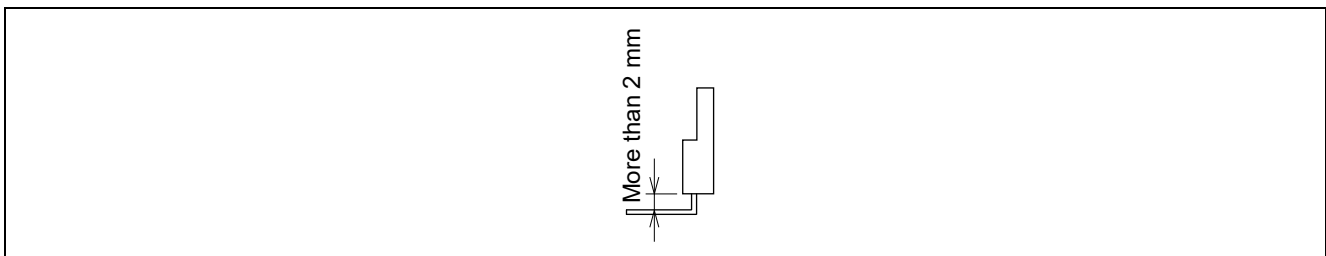

Figure 16 Bending leads in perpendicular direction
- When bending the lead perpendicular to the marking surface, bend it at a point at least 2 mm away from the main body as shown in the figure 16.